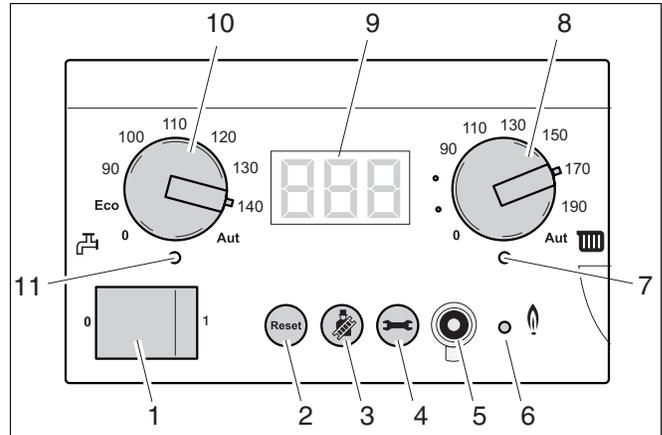

Fig. 66 BC10 basic controller
- Switch OFF the heating system by pressing the main switch of the BC10 basic controller (fig. 66, pos. 1).
- Switch ON the heating system by pressing the main switch of the BC10 basic controller (fig. 66, pos. 1).
- After the LED "Burner operation" (fig. 66, pos. 6) has lit wait for one minute until the boiler is burning at part load.
- Press and hold the "Chimney sweep" button (fig. 66, pos. 3) (approx. two seconds), until the dot in the right-hand bottom corner of the display (fig. 66, pos. 9) appears. See also table 8, "Flue gas test", page 41.